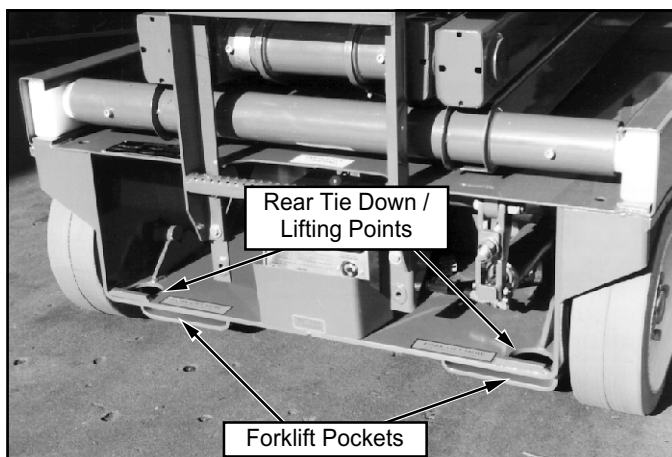

Figure 5: Rear Tie Downs, Lifting Points
1. Secure straps to Chassis Lifting Lugs only (Figure 5 & 6).
2. Secure the work platform to the transport vehicle with chains or straps of adequate load capacity attached to the chassis tie down lugs (Figures 5 & 6).